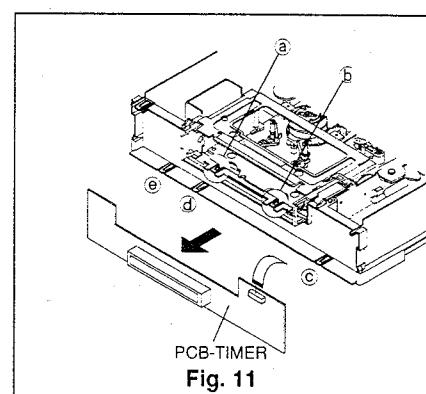

Fig. 11
- ③ Remove five catches (⑰ ~ ⑲), shown in Fig. 11, then remove the PCB-TIMER.